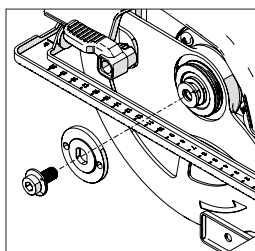

Fig. 4
- Using the Hex Key, loosen and remove the arbor socket headed screw, associated fixings, and outer blade drive flange. (Fig. 4)